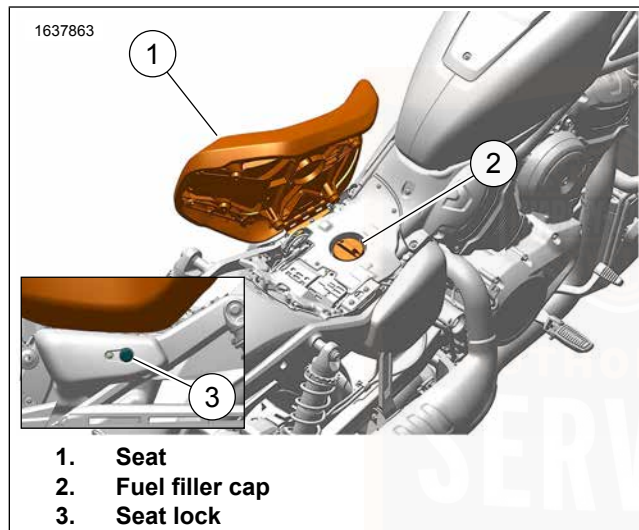

Figure 12. Fuel Fill (Under Seat Fuel Tank)
1. See Figure 12. Lift seat (1) to access fuel cap.
2. Turn fuel cap (2) counterclockwise to remove. The cap turns approximately three-quarters of a turn before it begins to loosen.